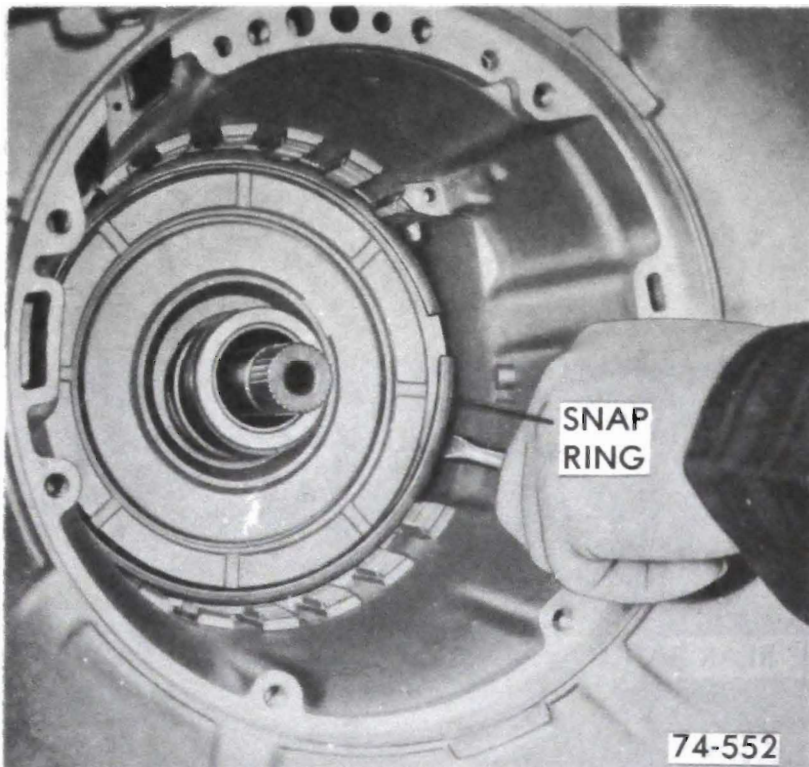

Figure 76-94
15. Remove center support to case retaining snap ring. See Figure 76-94.